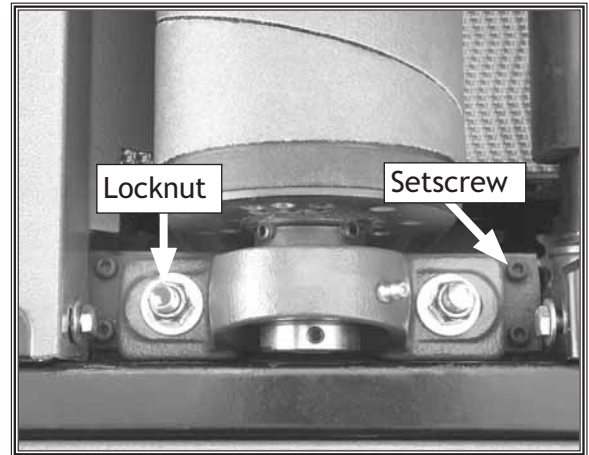

Figure 28. Pillow bearing housing.
9. Loosen the lock nuts (see **Figure 28**) on the pillow block bearing that requires adjustment.
10. Rotate the four setscrews $\frac{1}{8}$ of a turn clockwise to raise the pillow block bearing (see **Figure 28**).